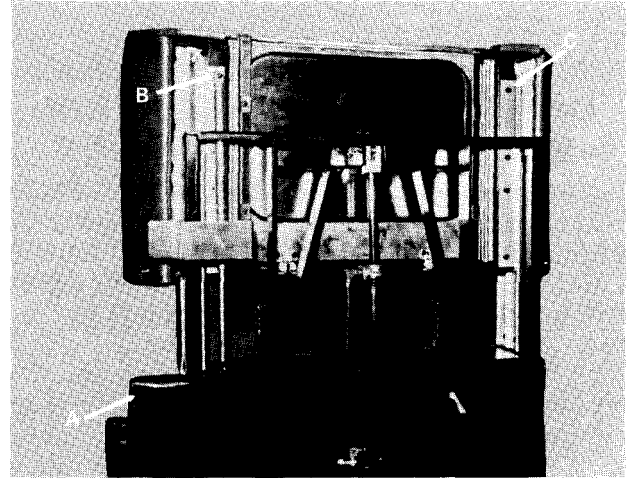

Fig. 7
- 5) On the 116 Only, remove the (4) wood screws located under the front outer edge of the seat section. Item A, Fig. 7.
- 5) On the 116 Only, install (4) wood screws under outer front edge of seat section, Item A, Fig. 7.
- 1) Remove screw Item B, Fig. 7, from lateral locking mechanism to expose (4) mounting screws,
- 2) Remove (4) mounting screws from each side of frame, Item C, Fig. 7.
- 4) Remove (4) # 1 O-24 x 5/8" screws from upholstered foot section.
- 1) Place footrest upholstered section on frame and align holes and install (4) # 10-24 x 5/8" screws in footrest upholstered section.
- 2) Install (4) mounting screws on each side of frame, Item C, Fig. 7.
- 3) Install screw, Item B, Fig. 7 in lateral locking mechanism.